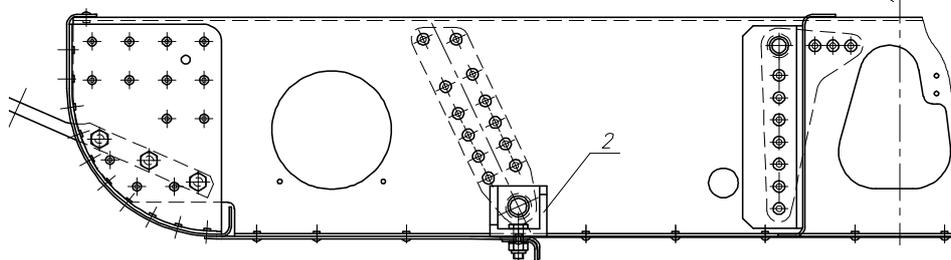

Fig. 2
2. Remove the bolts (13) of fitting (2) attachment to fuselage (see fig. 2).
3. Drill out the rivets (11, 12) with $\varnothing 3.1$ mm drill bit (see fig. 2).
4. Apply the reinforcing angle to fuselage (1), drill it to the fuselage and fix with Clico fasteners.
5. Drill the bolt holes (13) with $\varnothing 6.2$ mm drill bit in fuselage and ream them with $\varnothing 1/4H7$ reamer.
7. Fix the angle (1) with Clico fasteners.
8. Install the bolts (13) with primer.